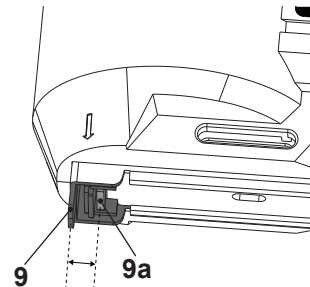

Fig. 9
NOTE: There is a gap between the safety yoke (9) and the shot duct (9a). Make several trials to staple at your desired position (Fig. 9).